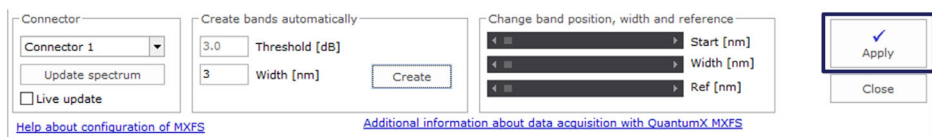

Fig. 5.13 Apply definitions to the device
- Press **Apply** for the changes to be transferred to the device (Fig. 5.13).